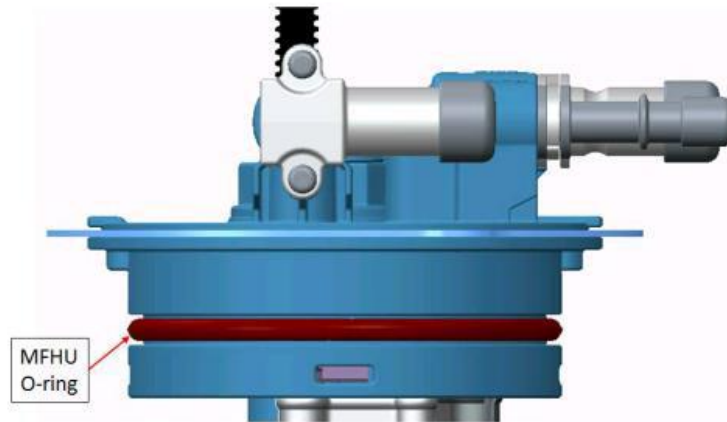

Figure 4.1
6. Apply a thin layer of DOW UCON LB-625 or equivalent O-ring lubricant to the bore seal O-ring on replacement MFHU. - *Reference Figure 4.1*